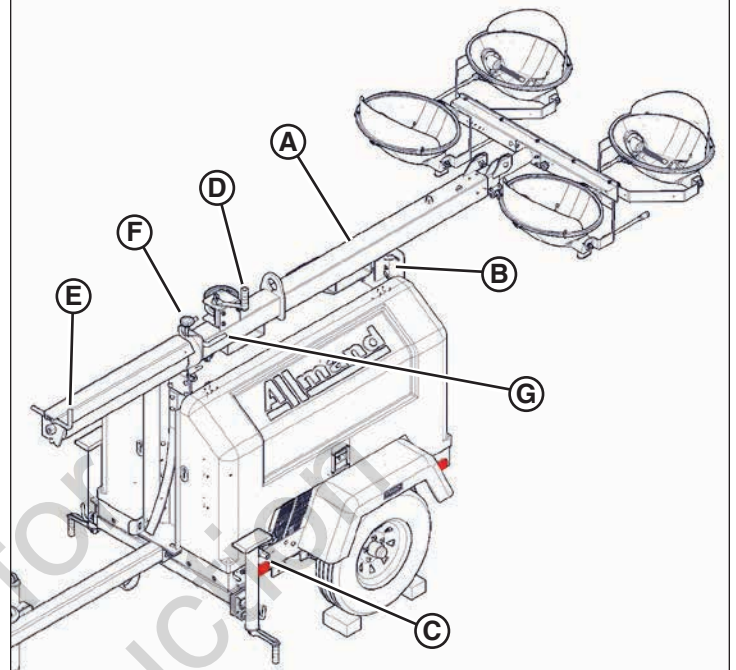

Figure 27
The manual winch tower (A, Figure 27) can be raised and extended by operating two hand crank winches. One winch, mounted with the handle extending through the side of the trailer frame, raises and lowers the mast from the horizontal towing position to the vertical position and back. The second winch mounted on the tower extends and retracts the telescopic sections.
3. Release the pin (B, Figure 27) that secures the mast to the rear mast support.
4. Operate the hand crank (C, Figure 27) on the right side of the trailer to raise the mast from horizontal to vertical.
5. Engage the automatic spring lock pin (E, Figure 27).
6. Operate the hand crank winch (D, Figure 27) on the tower clockwise to raise the lights vertically.
7. To rotate lights, turn the upper black knob (F, Figure 27) counterclockwise and turn the tower with the handles (G). Retighten knob.
2. Loosen the upper black knob (F, Figure 27) and rotate tower until handles (G) are parallel with the front of the trailer and retighten knob.
3. Operate the upper hand crank winch (D, Figure 27) counterclockwise to lower the lights to the lowest vertical position.
4. Operate the lower hand crank winch (C, Figure 27) on the side of the trailer clockwise to take up any slack in the cable.
5. Disengage the automatic spring lock (E, Figure 27).
8. Secure the rear support release pin (B, Figure 27), locking the mast to the rear tower support for towing.